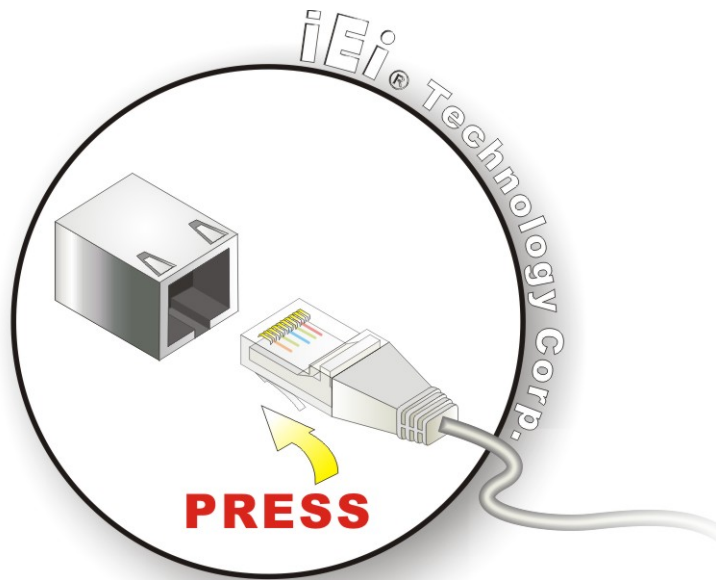

Figure 4-9: LAN Connection
**Step 2: Align the connectors.** Align the RJ-45 connector on the LAN cable with one of the RJ-45 connectors on the UIBX-200-R11/Z510P. See Figure 4-9.